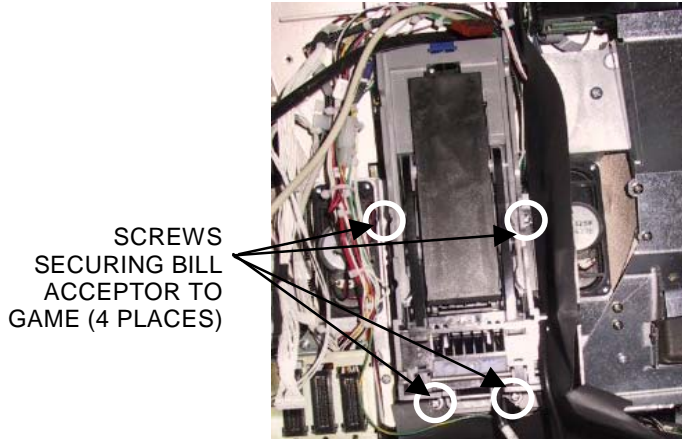
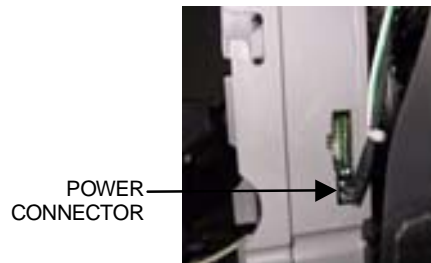

FIGURE 7 - BILLACCEPTOR WITH MAGAZINE REMOVED
FIGURE 8 - POWER CONNECTOR ON SIDE OF BILLACCEPTOR
10. Disconnect the power connector (green/white/black wires) from the side of the bill acceptor. See Figure 8.
3. Attach the power connector to the new bill acceptor (see Figure 8). This connector can only be connected one way. Secure the new bill acceptor assembly to the game with 4 screws. See Figure 7.